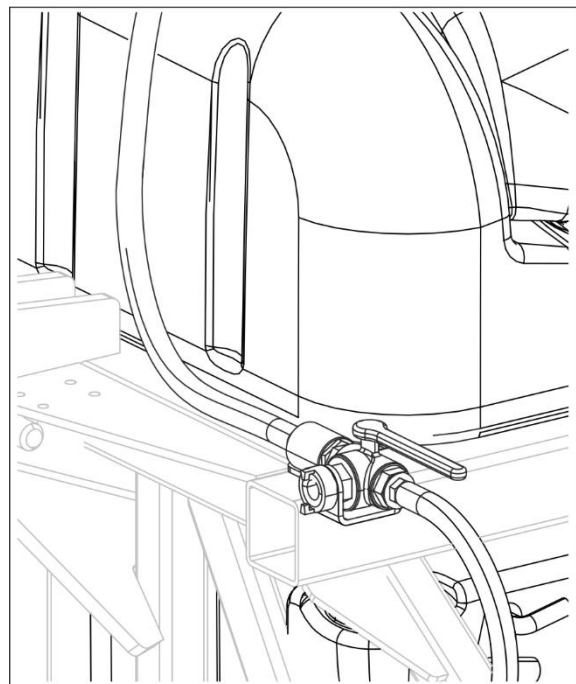

Figure28 : Three-way valve to the fresh water tank
7. Switch the three-way valve to the fresh water tank, see figure 28.